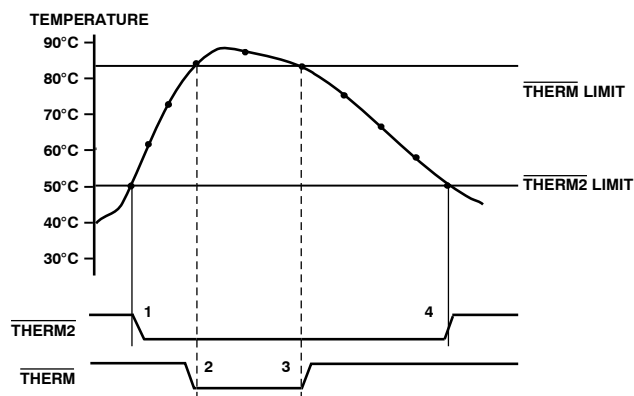

Figure 21. Operation of the THERM and THERM2 Interrupts
Figure 21 shows how THERM and THERM2 operate together to implement two methods of cooling the system. In this example, the THERM2 limits are set lower than the THERM limits. The THERM2 output is used to turn on a fan. If the temperature continues to rise and exceeds the THERM limits, the THERM output provides additional cooling by throttling the CPU.
- The THERM output deasserts (goes high) when the temperature falls to THERM limit minus hysteresis. In Figure 21, there is no hysteresis value shown.